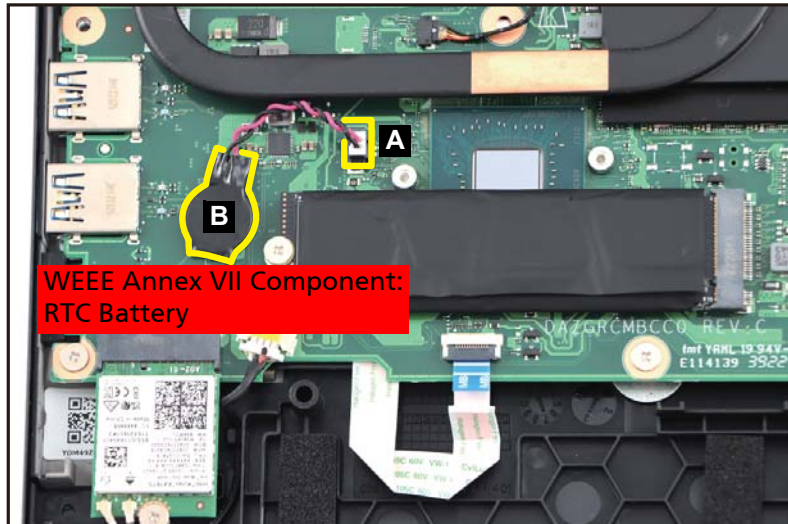

Figure 1-22. RTC Battery Removal
1. Disconnect the RTC battery cable from the mainboard connector (A) (Figure 1-22).
2. Using plastic tweezers, carefully pry to detach the adhesive tape underneath the RTC battery (B) (Figure 1-22). Then remove the RTC battery.